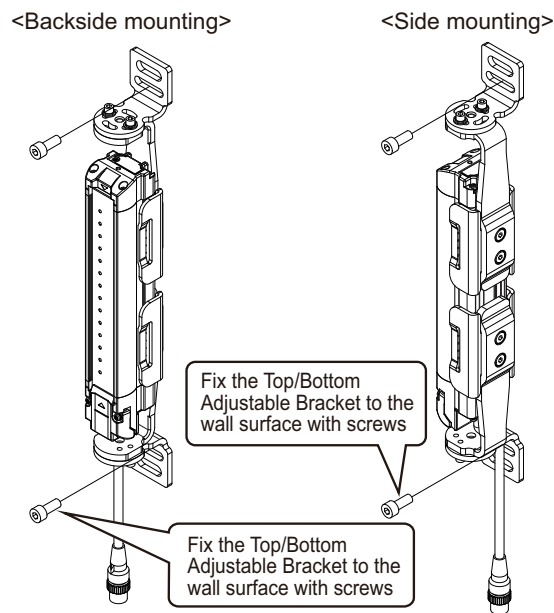

Fig. 3
3. Securely tighten screws to fix the Top/Bottom Adjustable Bracket to the mounting position of the wall surface. (Fig. 3)